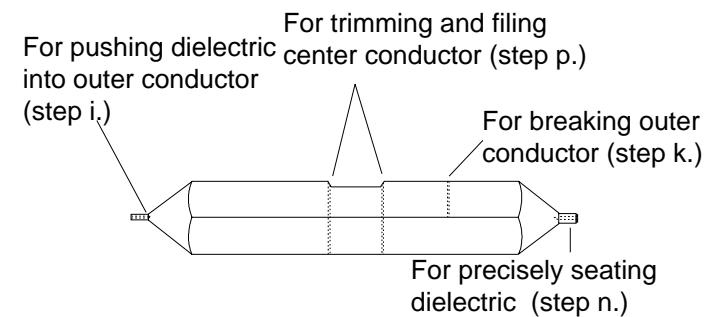

Figure 4. 01-418 Assembly Tool
- Break the outer conductor by bending slightly back and forth. *The 01-418 Assembly Tool (Figure 4) may be used for this.* Remove the outer conductor.